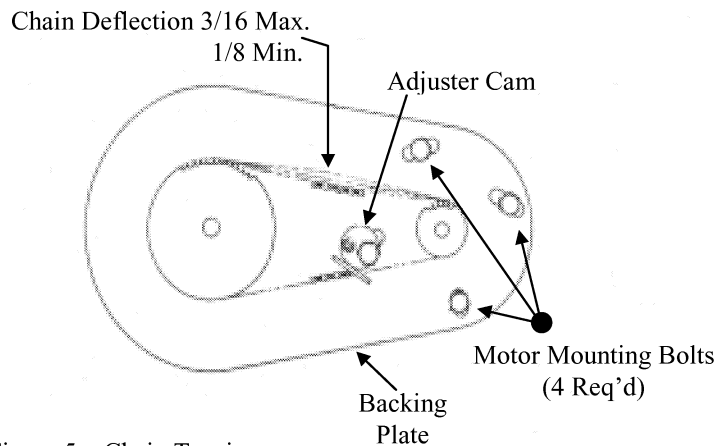

Figure 5 – Chain Tension
- 2) Loosen the 4 motor mounting bolts slightly (see Figure 5)
- 3) Rotate adjuster cam counterclockwise until chain is correctly tensioned (see Figure 5). The chain should defied 1/8" to 3/16" when pressed down at the middle of the span (see Figure 5).